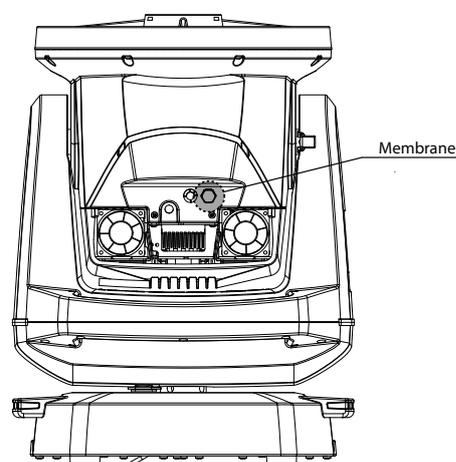

Figure 26: Membrane
5. The membrane is located at the right (figure 26).